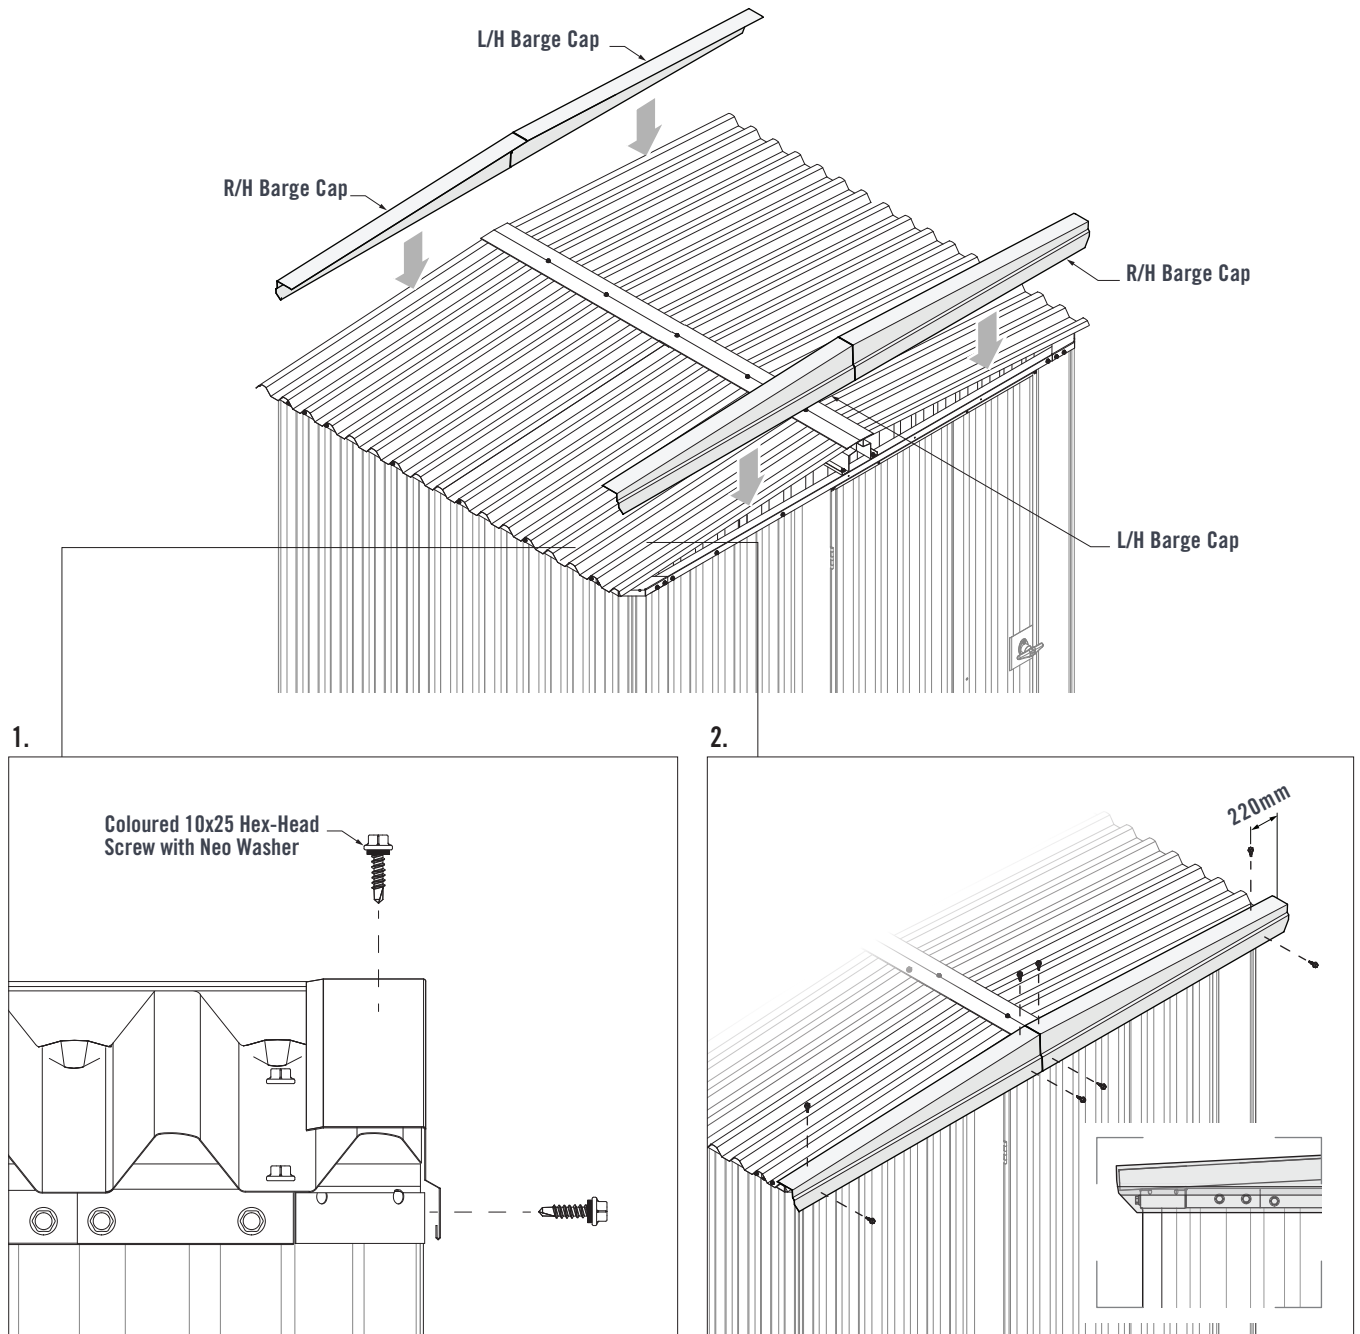

FIGURE 7.8
1. Place the L/H Barge Cap over the Roof Sheet at the front of the shed. The front face of the Barge Cap should fit up against the Roof Sheets (Figure 7.8).
2. The ends of the Barge Cap Should align with the end of the Roof Sheet. Fasten two coloured 10x25 Hex-Head Screws with Neo Washers through the front face of the Barge Cap and into the Wall Channel. Fasten two coloured 10x25 Hex-Head Screws with Neo Washers through the top of the Barge Cap and into the crests of the Roof Sheets (Figure 7.8).
Install the R/H Barge Cap in the same manner on the front right side of the shed. Install the remaining L/H and R/H Barge Caps to the rear of the shed in the same manner (Figure 7.8).